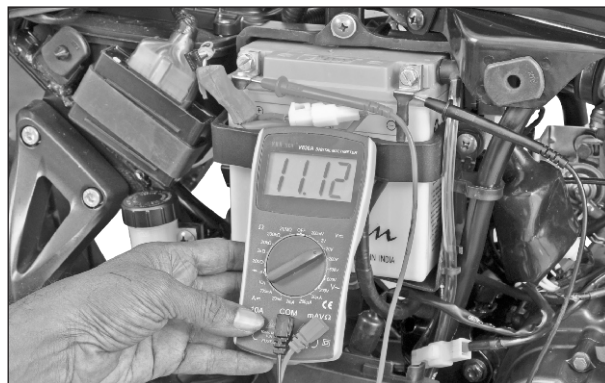

Fig. 5.39
- Connect the pocket tester's '+ve' lead of to positive terminal of the battery and '-ve' lead of pocket tester to the negative terminal of the battery. (Fig. 5.39)